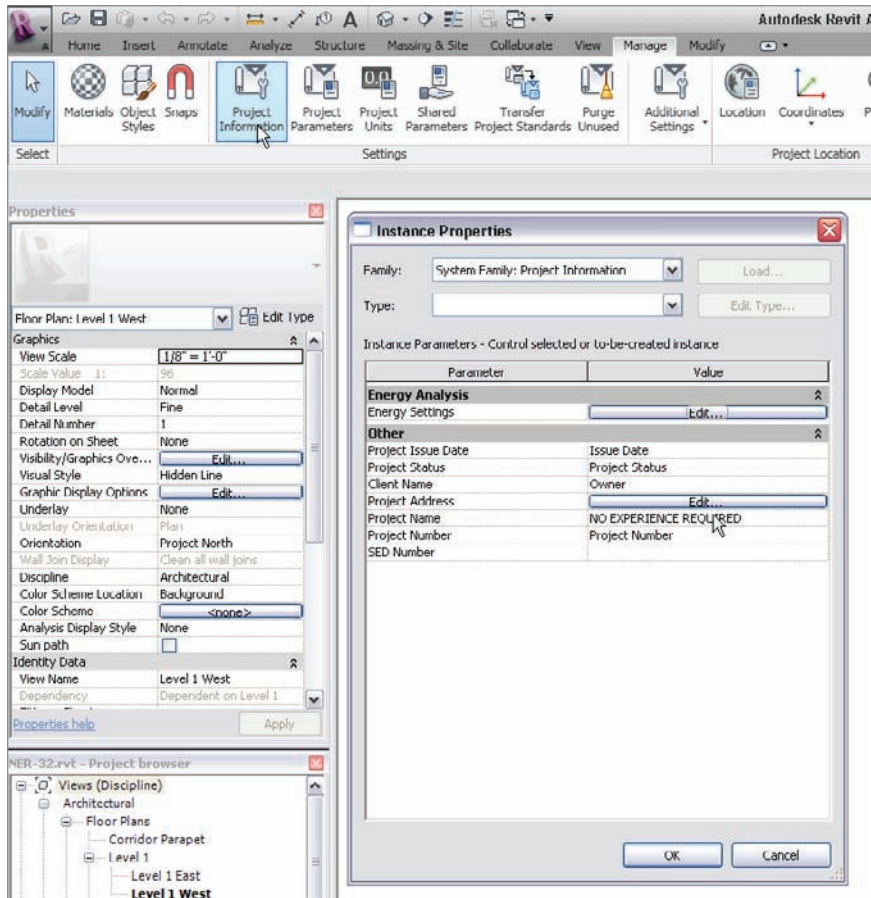

FIGURE 14.22 Filling out the project data
1. On the Manage tab, click Project Information, as shown in Figure 14.22.
2. In the Instance Properties dialog, click the Edit button next to Energy Settings, as shown to the right in Figure 14.22. The resulting dialog allows you to add the project's geographical information as well as energy data. This lets you export the information to GBXML
4. You can fill out the rest of the information as follows (see Figure 14.22):